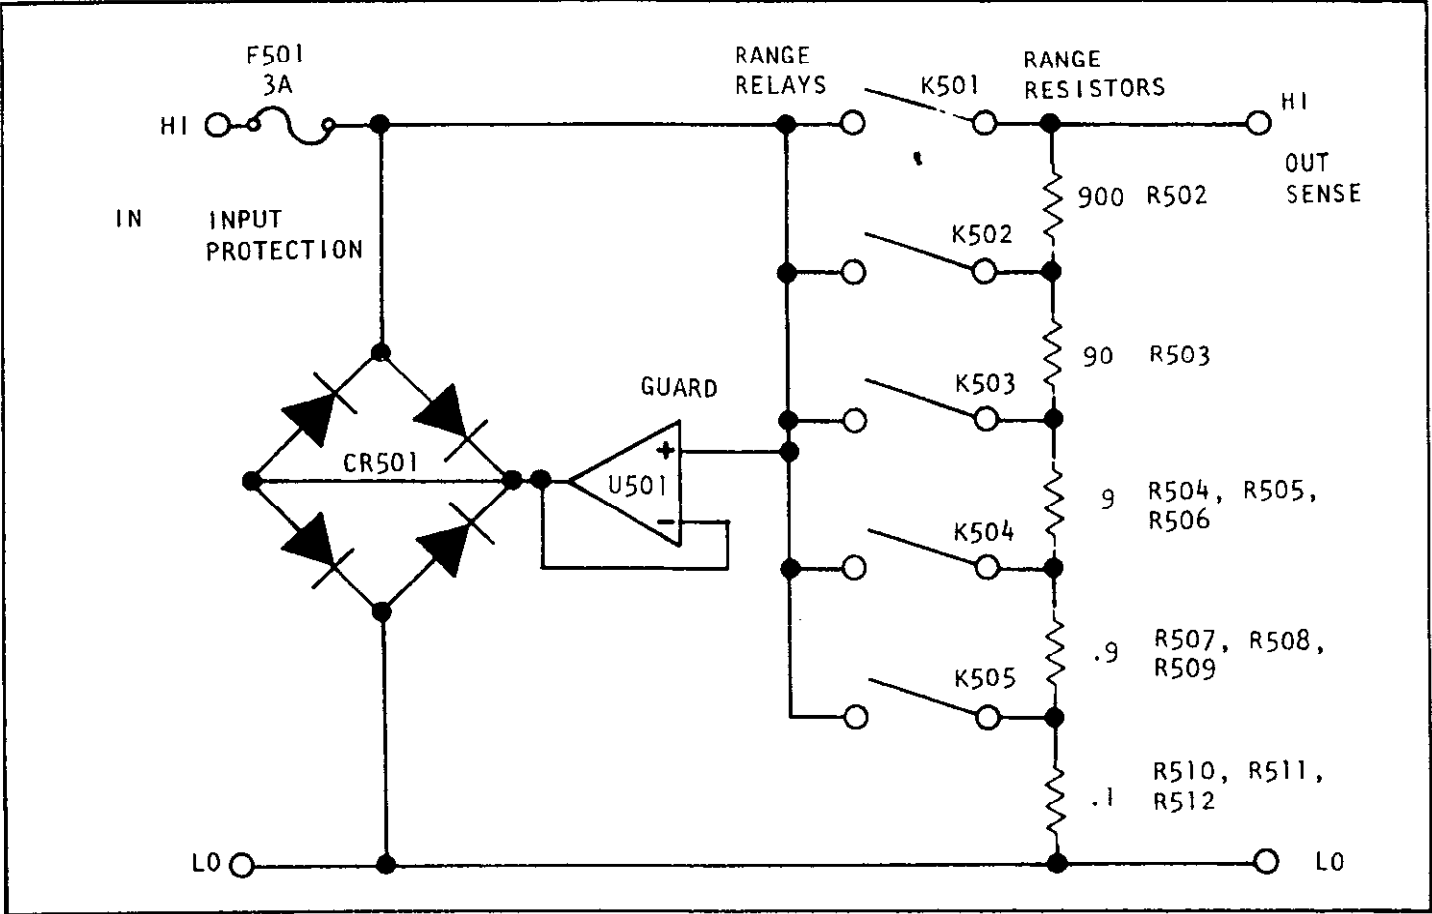

FIGURE 5-5. Simplified Schematic of 173A I/V Converter.
1) Model 173A I/V Converter. The converter is shown on the simplified schematic (Figure 5-5). An input current is converted to a voltage directly proportional to the input current by measuring the voltage drop across a resistance placed in series with the current. This is accomplished by closing the appropriate range relay (K501 through K505) to give an output voltage between 0 and 300 millivolts. For example: Consider that K503 is closed. The current will now flow through $9\Omega + 0.9\Omega + 0.1\Omega = 10\Omega$, and $30\text{mA} = 300\text{mV}$. Since a dc current is converted to a dc voltage and an ac current is converted to an ac voltage, the output of the I/V converter is routed through either the DC attenuator circuit or the AC/DC converter before being applied to the A/D converter. Signal routing is controlled by the DC/AC pushbutton and the gains employed are the same as those given in Table 5-2 for the 300mV range. Input protection for the I/V converter consists of a 3 ampere medium acting fuse (F501) and a diode bridge (CR50). The fuse is rear panel accessible. CR501 limits the voltage to 2 diode drops in either positive or negative polarity. Unity gain buffer amplifier U501 guards the center connections of the diodes so that less than one digit error is introduced on the 300 μ A range, which has 10 nanoampere sensitivity. Refer to Schematic 27478D for the remainder of this discussion. Range control lines (A, B and C from LSI chip U901) autorange the Model 173A current function. The lines are decoded by the BCD to decimal decoder U502 (See Table 5-3). The output from U502 turns on the applicable relay driver transistor to energize its range relay. Diodes are used to block the range lines when -12V is applied and input dividers are used to drop +8V to +5 volts for application to U502. Spike suppression diodes are used across the relay coils to prevent damage to the relay drivers. Potentiometers R506, R509 and R512 provide adjustments for calibrating the I/V converter. With the exception of the fuse, all of the I/V converter circuitry is physically located on current PC-406 and shown on Component Layout diagram 27884C in Section 7.